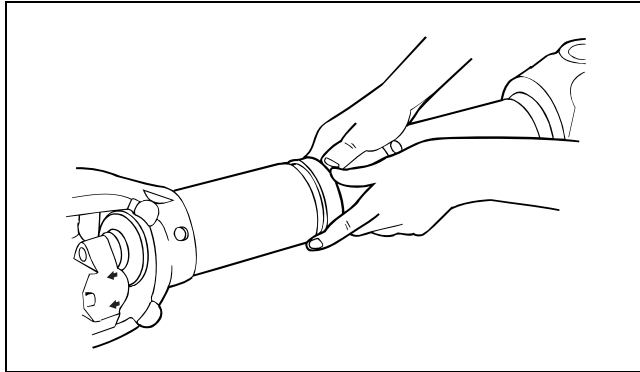
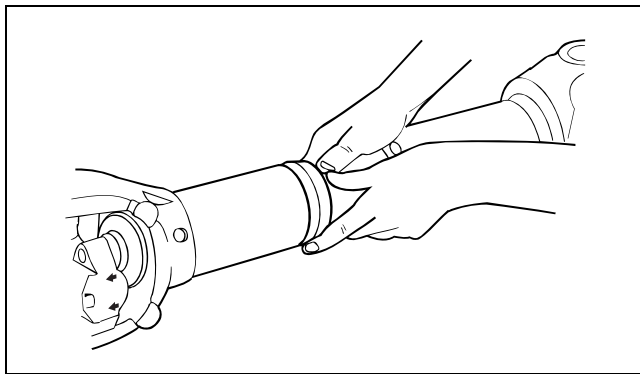

Figure 4.23
Figure 4.24
8. Snap the seal into the groove. Figure 4.23 and Figure 4.24.